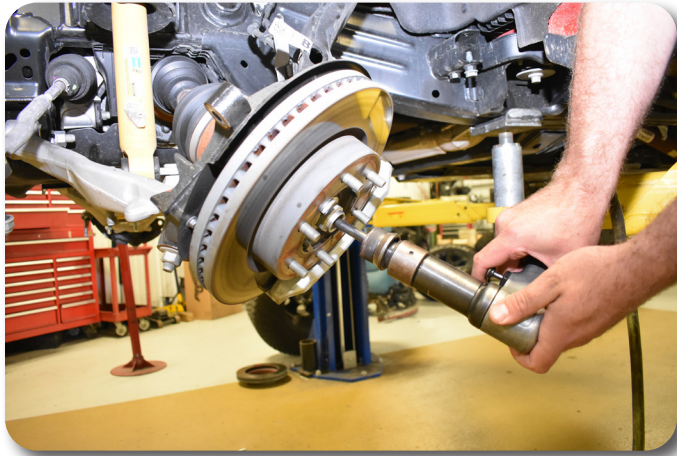

Figure 7
10. **Optional:** Use an air hammer to dislodge the CV shaft from the hub **Figure 7**. This step is optional, but will make it easier to remove the strut from the vehicle.